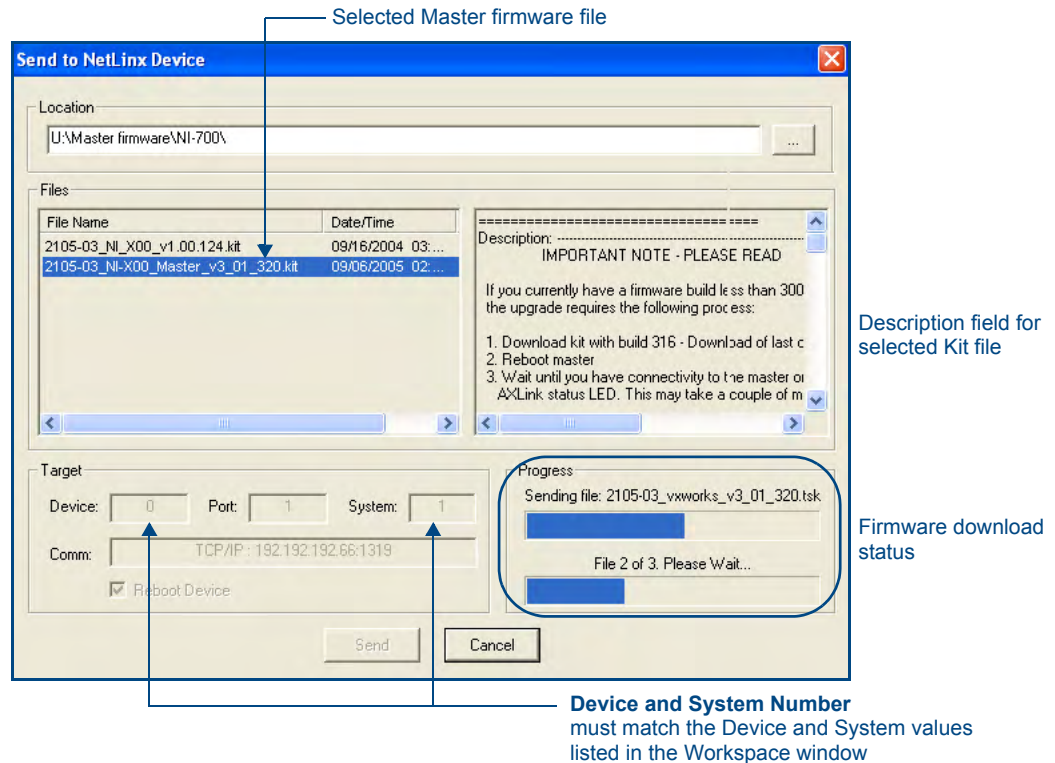

FIG. 6 Send to NetLinX Device dialog (showing on-board NI_Master firmware update via IP)
7. In NetLinX Studio, select **Tools > Firmware Transfers > Send to NetLinX Device** to open the Send to NetLinX Device dialog (FIG. 6). Verify the target's System number matches the value listed within the active System folder in the **OnLine Tree** tab of the Workspace.
8. Select the NI Master's Kit file from the **Files** section (FIG. 6).
11. Click **Send** to begin the transfer. The file transfer progress is indicated on the bottom-right of the dialog (FIG. 6).